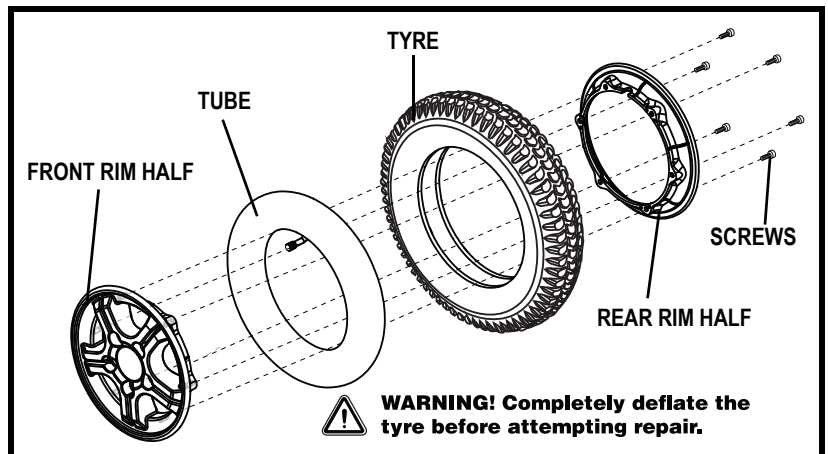

Figure 30. Fusion Drive Wheel Disassembled
6. Remove the screws and separate the front and rear rim. See figure 30.